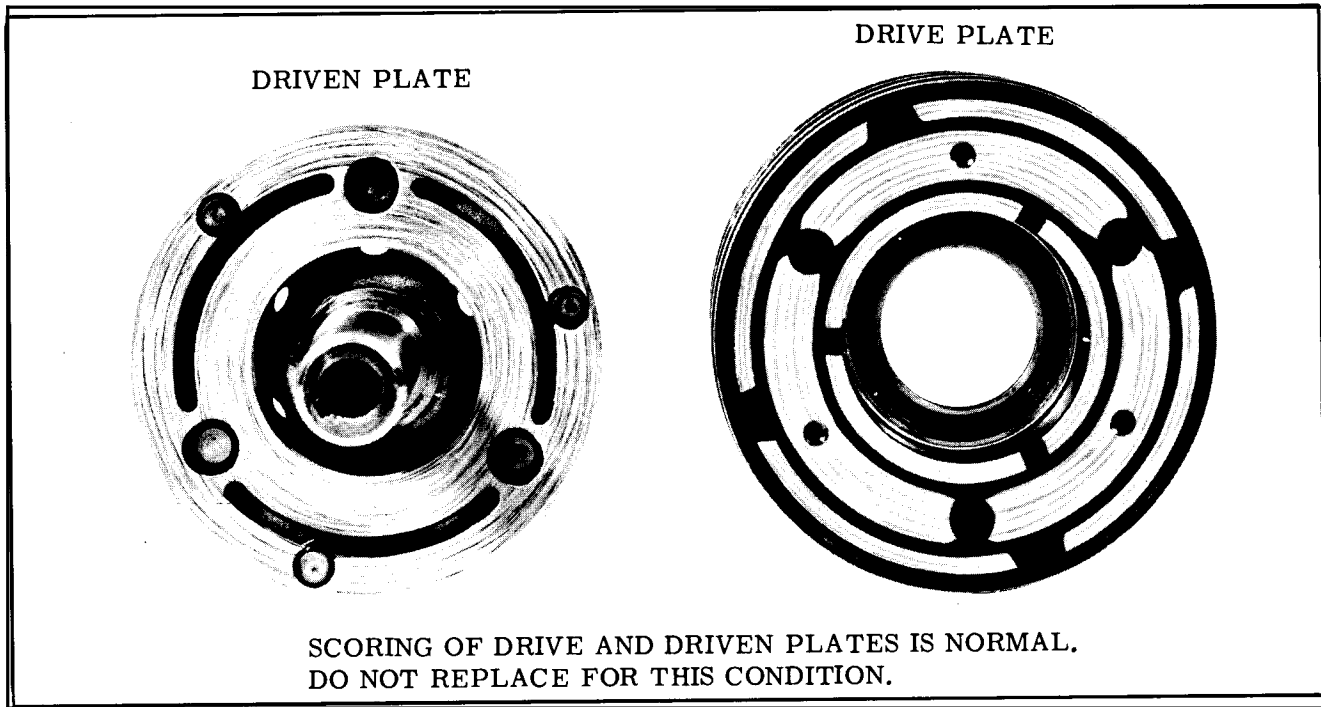

Figure 45—Clutch Driven Plate and Drive Plate
6. Inspect driven plate for cracks or stresses in the drive surface. Do not replace driven plate for a scoring condition. (figure 45).
Check the appearance of the pulley and bearing assembly. See Figure 45. The frictional surfaces of the pulley and bearing assembly should be cleaned with suitable solvent before reinstallation.